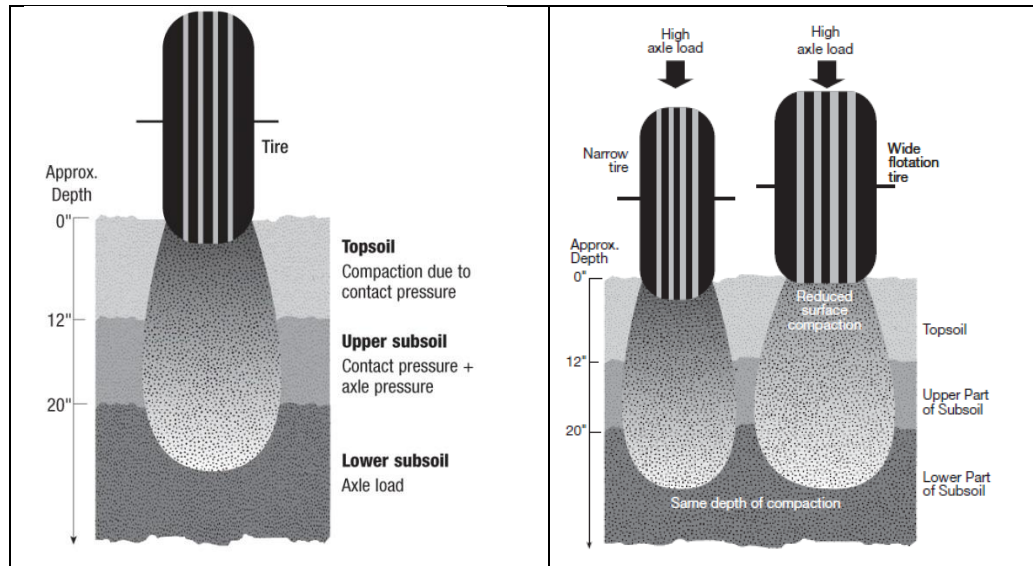

Figure 5. The Location of Compaction and Its Causes in the Soil and the Influence of Distributing the Axle Load with Larger Flotation Tires. Duiker (2004).
3. Distribute the weight (more axles and lower inflation pressures, Figure 5)
Research by Duiker (Figure 5) shows that distributing the load over a larger area reduces the amount of surface compaction, but the depth of compaction is not reduced. This emphasizes the importance of total weight per axle. Larger tires and lower air pressures will reduce surface compaction, but the weight on the axle will determine the depth of the compaction.